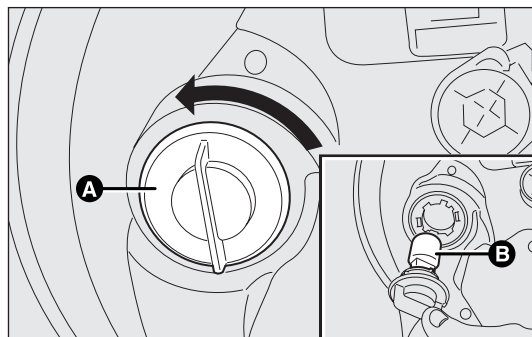

fig. 138
- ☐ turn the bulb holder A-fig. 138 anticlockwise using the tab and pull it out;